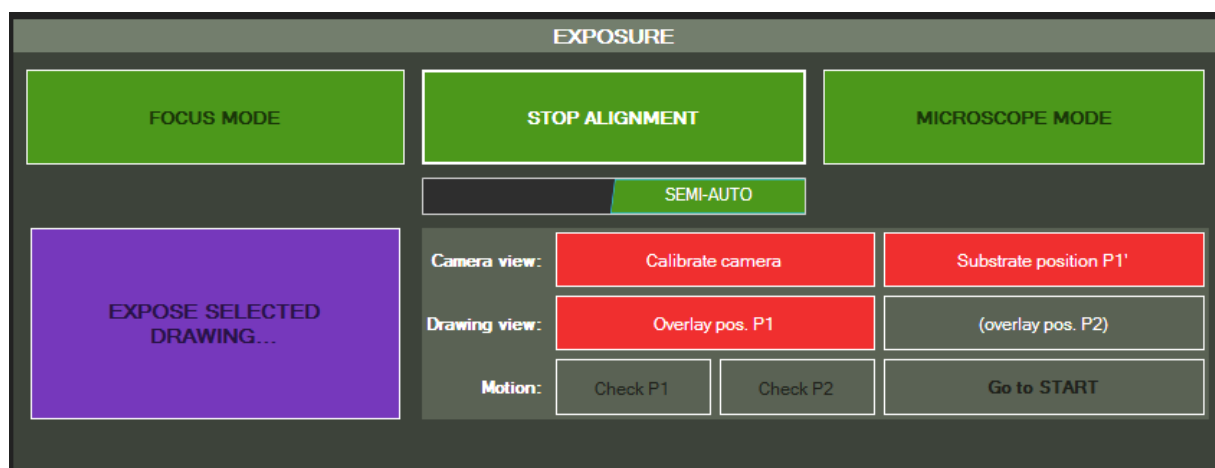

Figure 55 - Semi-automatic alignment mode
- Click on **Alignment mode** and set the **toggle switch** below to **SEMI-AUTO** (Figure 55).